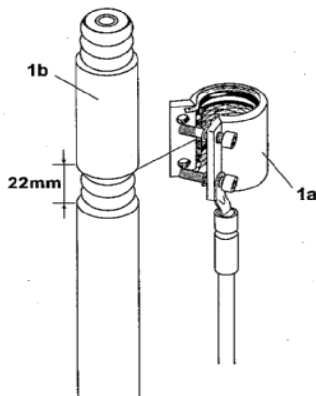

Figure 17
a) Prepare ground kit, as shown in Figure 17 1a.
b) Clean the plastic sheath of the control cables, cutting plastic sheath with a suitable stripper tool, expose metal braid sheath of control cable, with length about 22mm, as shown in the Figure 17 1b.